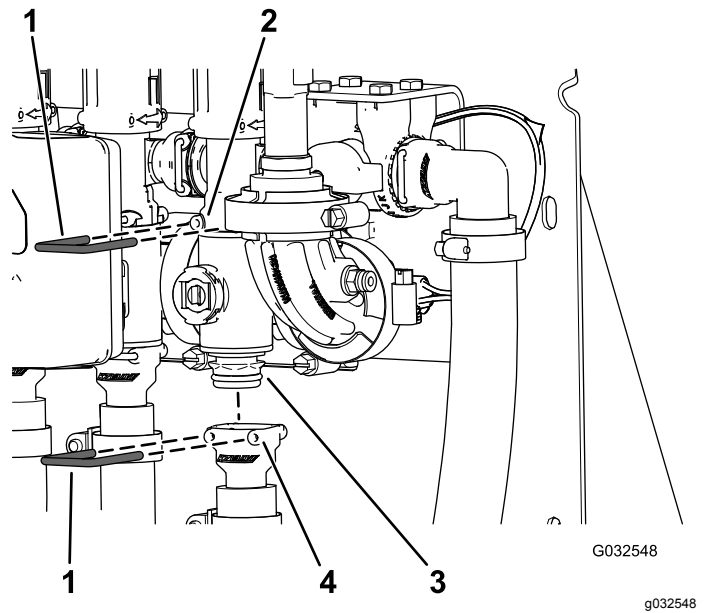

Figure 100
2. Remove the retainer that secures the section-valve manifold to the bypass fitting (Figure 100).